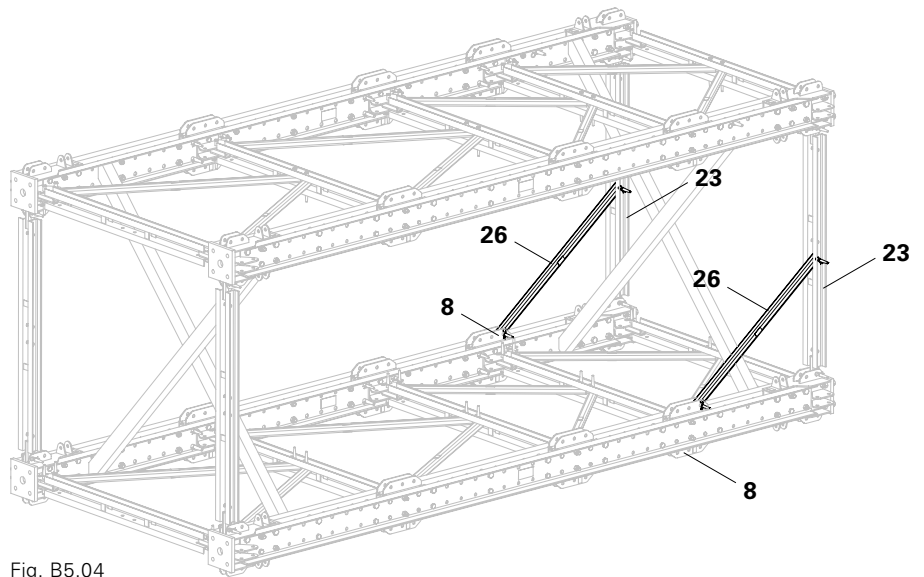

Fig. B5.04
1. On each side, insert 1x Diagonal Strut VST (26)* into the Horizontal Ledger VST 200 (23).
2. Connect the Diagonal Strut VST (26) to the Bracing Connector VST (8) and Horizontal Ledger VST 200 (23) using 1x Fitting Pin \varnothing 21 mm (9) each. (Fig. B5.04)